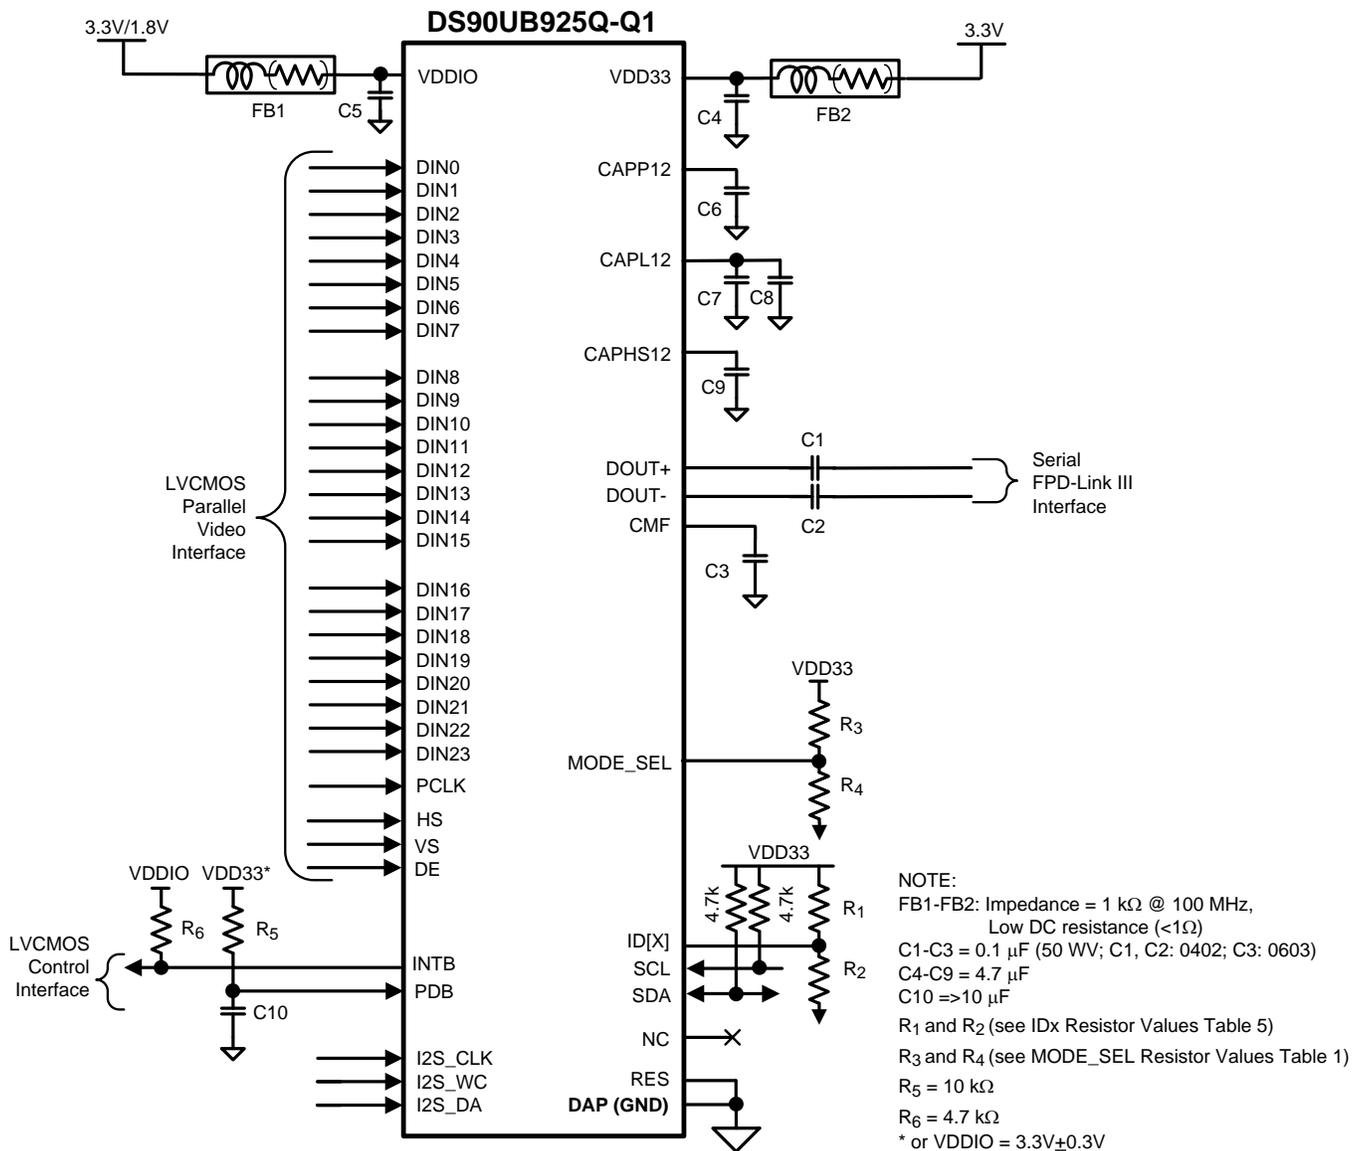

Figure 23. Typical Connection Diagram
Figure 23 shows a typical application of the DS90UB925Q-Q1 serializer for an 85 MHz 24-bit Color Display Application. The camera application has the same recommended connections. The CML outputs must have an external 0.1 μ F AC coupling capacitor on the high speed serial lines. The serializer has an internal termination. Bypass capacitors are placed near the power supply pins. At a minimum, six (6) 4.7 μ F capacitors and two (2) additional 1 μ F capacitors should be used for local device bypassing. Ferrite beads are placed on the two (2) VDDs (V_{DD33} and V_{DDIO}) for effective noise suppression. The interface to the graphics source is with 3.3V LVCMOS levels, thus the V_{DDIO} pin is connected to the 3.3 V rail. A RC delay is placed on the PDB signal to delay the enabling of the device until power is stable.